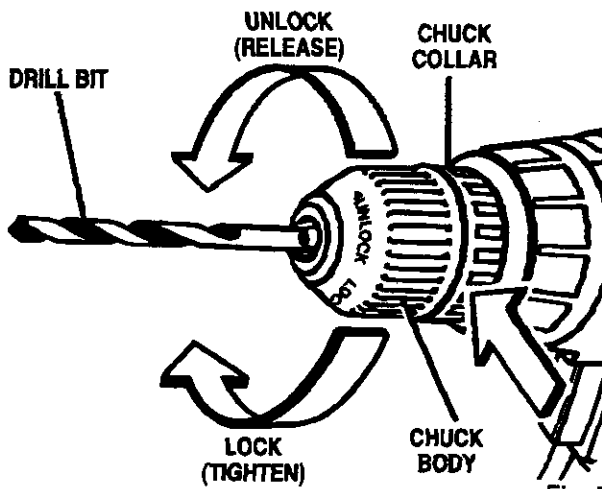

Fig. 5
See Figure 5.
- To tighten the chuck jaws on drill bit; grasp and hold the collar of the chuck with one hand, while rotating the chuck body with your other hand. **Note:** Rotate the chuck body in the direction of the arrow marked **LOCK** to tighten chuck jaws. See Figure 5. **Do not** use a wrench to tighten or loosen the chuck jaws.
- To loosen: grasp and hold the collar of the chuck with one hand, while rotating chuck body with your other hand. **Note:** Rotate chuck body in the direction of the arrow marked **UNLOCK** to loosen chuck jaws. See Figure 5. **Do not** use a wrench to tighten or loosen the chuck jaws.